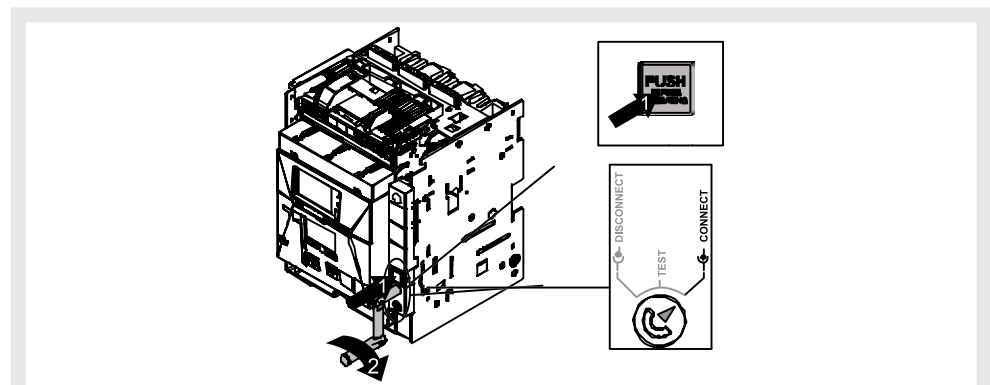

Figure 46
7. Press lock pushbutton and turn handle clockwise until pushbutton projects and signaling device indicates that circuit-breaker is in position **CONNECT**. See Figure 46.